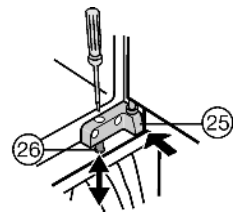

Fig. 13
- ▶ Adjust the appliance in height: by way of the adjusting screws Fig. 13 (26) in the bearing supports Fig. 13 (24, 25).